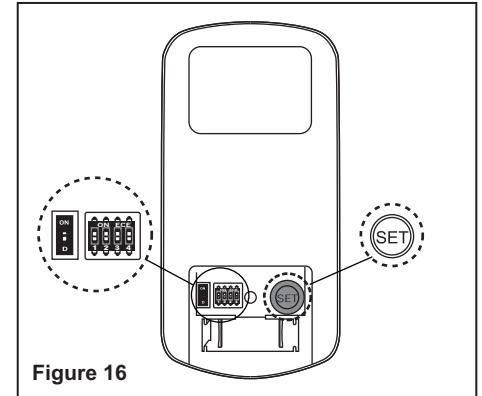

Figure 16
"D" and "ON" dip switch: The "D" selection is the light dimmable selection for LED light only. The "ON" selection is the light on only (no dimmable function). (Fig. 16)
a) Select desired frequency from the transmitter. The dip switches can be set to 16 different combinations. (Fig. 16)
b) From the back of the transmitter, with the fan's power off, restore power to the fan. Press and hold "SET" button for about 5 seconds and release. If optional light kit is installed, the light kit will flash twice and the signal light on the hand held transmitter will come on when the button is pressed. The fan has completed the pairing process with the remote control and is ready for use. (Fig. 16)